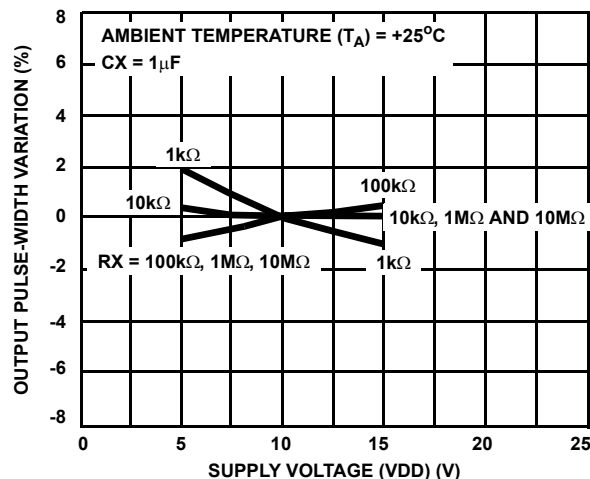

FIGURE 19. TYPICAL OUTPUT PULSE WIDTH VARIATIONS vs SUPPLY VOLTAGE
- In addition to variations from unit to unit, the monostable pulse width varies with VDD and temperature. These variations are presented in graphical form in Figures 19 to 26 with 10V as reference for voltage variation curves and +25°C as reference for temperature variation curves.